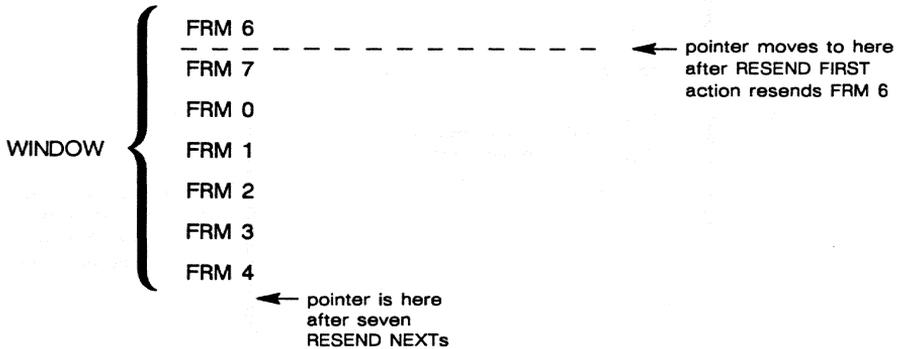

Figure 39-29 *RESEND FIRST* resets the pointer, allowing you to resend the entire window repeatedly.
1. *Resend first/next.* RESEND FIRST means that the resend-pointer is reset to the beginning of the window, the first frame in the window is resent, and the pointer is advanced to the second position in the window. The effect of a RESEND FIRST action is illustrated in Figure 39-29.